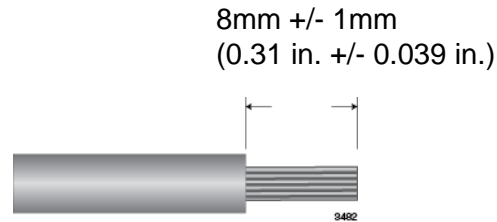

Figure 30. Stripped Wire
4. With a 14-gauge wire-stripping tool, strip the three wires in the tray cable coming from the DC input power source to $8\text{mm} \pm 1\text{mm}$ ($0.31\text{ in.} \pm 0.039\text{ in.}$), as shown in Figure 30 on page 111.